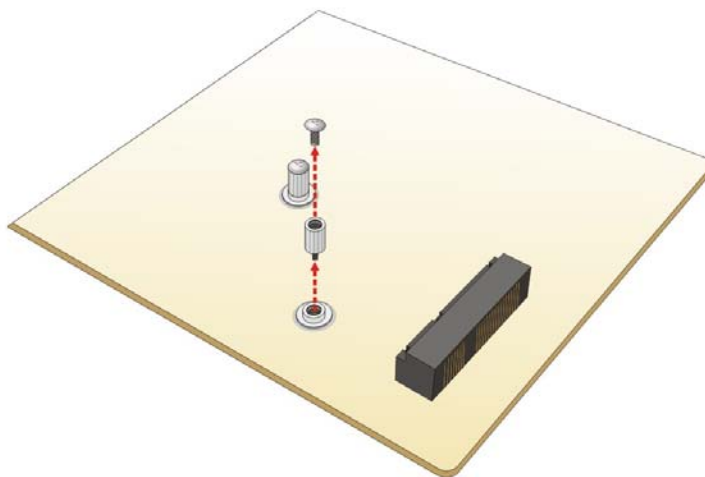

Figure 3-8: Removing the Screw and Standoff for Half-size PCIe Mini Card
Step 3: Remove the retention screw and standoff for a half-size PCIe Mini card. To avoid interference of the board circuit, remove the retention screw and standoff for a half-size PCIe Mini card as shown in Figure 3-8.